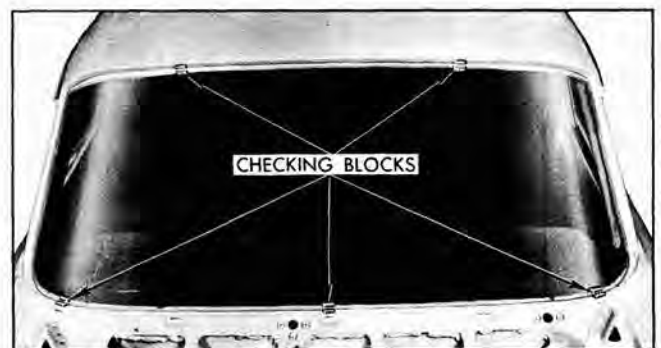

Fig. 12-13 Windshield and Opening Check
4. Install five (5) windshield checking blocks J-8942 to pinchweld flange (Fig. 12-13 and 12-14). Position one block over lower pinchweld flange on each side of body approximately twelve inches (12") inboard from the lower outer corner of the opening. Position final block on lower pinchweld flange in center of windshield opening. Position one block over upper pinchweld flange midway between center block and each outboard block on lower retaining flange.